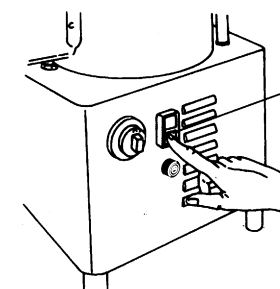

Fig. 10
- To interrupt the working cycle before the pre-set time is elapsed press the red button 1 Fig. 10.